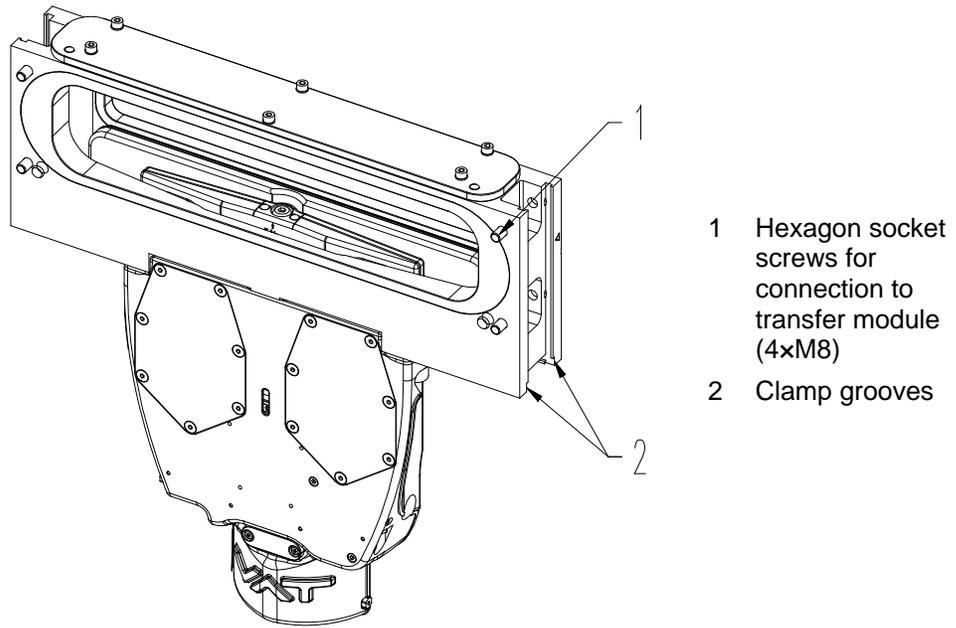

Figure 4-1
- Tighten the hexagon socket screws for connection to transfer module crosswise with a torque of **15 Nm**; see «Figure 4-1» on page 12.